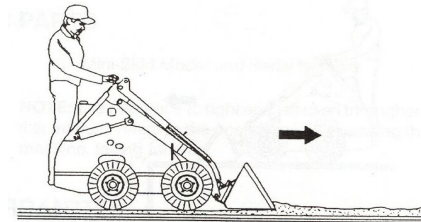

Figure 15
2. Drive Machine forward slowly and continue to tilt bucket forward until it enters the ground to desired depth and then tilt it back a small amount to keep an even depth, as show in Figure 15.